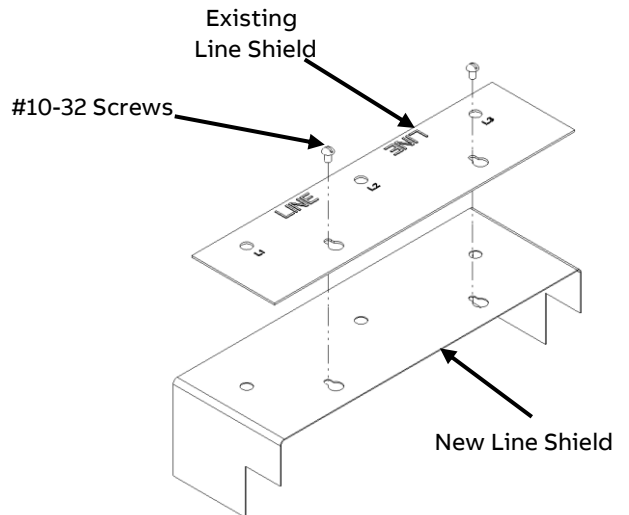

Figure 10. : Arc Shield TLSKA for Safety Switch
New Line Shield along with existing Line shield to be mounted on Switch by new or old (saved hardware) qty (2) #10-32 screws with torque 15 in-lbs as shown in Fig 10.